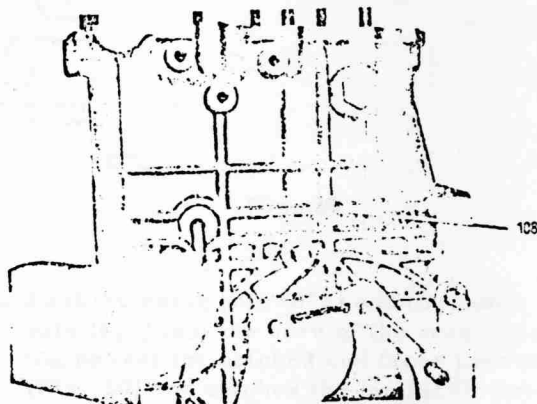

Fig. 16
The shaft for reverse (502) should only be removed if it shows signs of wear. The needle bearing (231) and the outer ring of the needle bearing (403) should only be removed if damaged. Before the needle bearing can be removed, the locking screw (109) must be loosened and the compression spring (111) and the pin (112) must be removed (see also Fig. 16). The needle bearing outer ring (403) is secured with a locating screw (108).
1. Using tool . 1 . for needle bearing outer ring (405) and tool . 2 . for the needle bearing (231), press both into the main housing so that the close fitting bolt (108) with the spring washer (107) can be screwed into the bore of the needle bearing outer ring and the pin (112) can be placed into the bore of the needle bearing. In order to make quite sure that the pin is correctly positioned, it would be advisable to measure the bore with a depth gauge.
Place compression spring (111) on the pin (Fig. 16) and screw the locking screw (109) with washer (110) into the thread of the main housing.